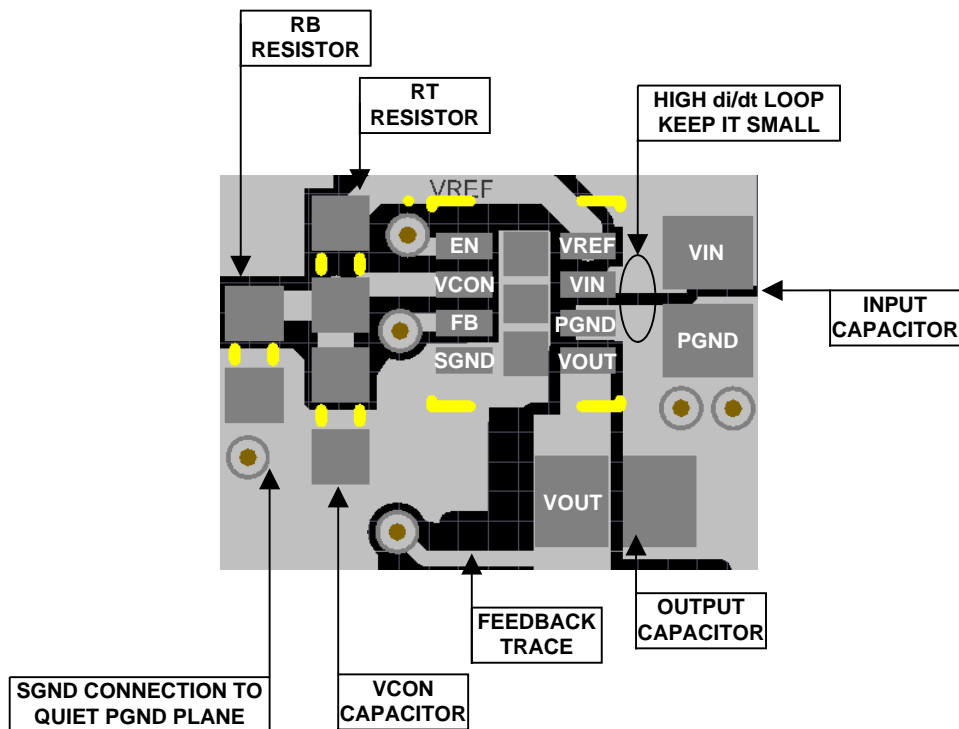

Figure 42. Example Top Layer Board Layout
The LMZ10500 integrates the inductor and simplifies the DC-DC converter board layout. Refer to the example layout in Figure 42. There are a few basic requirements to achieve a good LMZ10500 layout.
2. Place the V_{CON} filter capacitor C_{VC} and the R_B R_T resistive divider as close as possible to the V_{CON} and $SGND$ terminals. The C_{VC} capacitor (not R_B) should be the component closer to the V_{CON} pin, as shown in Figure 42. This allows for better bypass of the control voltage set at V_{CON} .